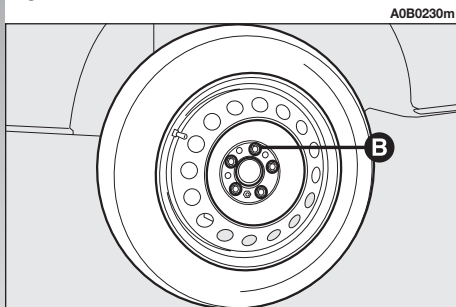

fig. 4
- Loosen the fastening bolts by approx. one turn (**B**-fig. 4).
- Completely unscrew the bolts (**B**-fig. 4), and remove the wheel.